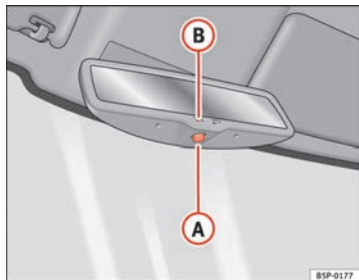

Fig. 67 Automatic anti-dazzle interior mirror.
- Press button **A** ⇒ fig. 67. Indicator lamp **B** goes off.
- Press button **A** ⇒ fig. 67. Warning lamp is lit.